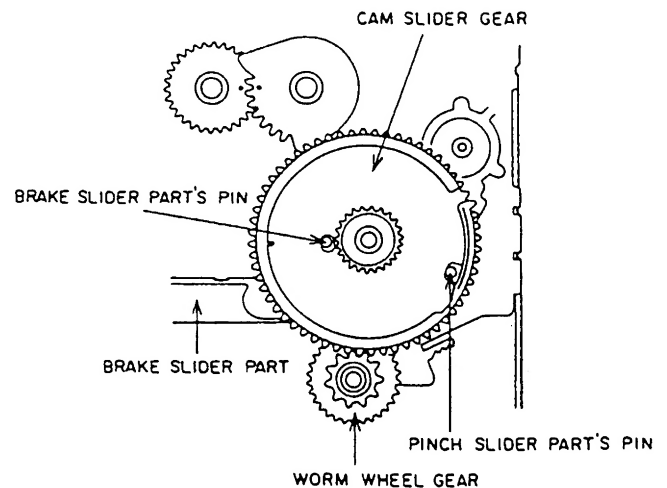

Fig. 3-9
- 1) Attach the WORM WHEEL GEAR as shown in Fig. 3-9.
- 2) Set the CAM SLIDER GEAR. At this time, adjust the position of the BRAKE SLIDER PART and PINCH SLIDER PART so that both pins appear through the holes on the CAM SLIDER GEAR as shown in Fig.3-9.